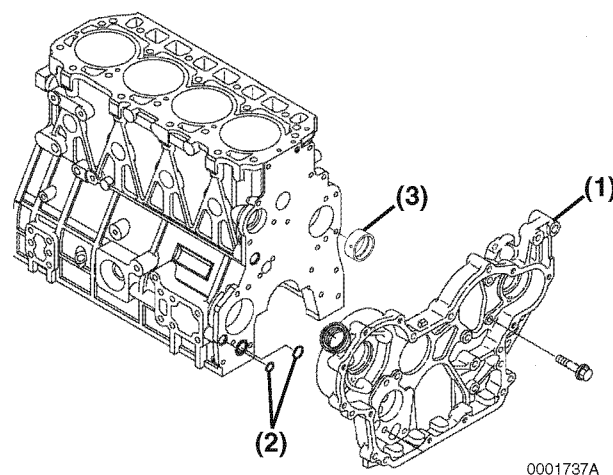

Figure 6-75
1. If removed, install a new camshaft bushing (Figure 6-75, (3)).
3. Be sure the two O-rings (Figure 6-75, (2)) are positioned in the cylinder block.
4. Install the gear case (Figure 6-75, (1)). Tighten the gear case bolts to the specified torque.